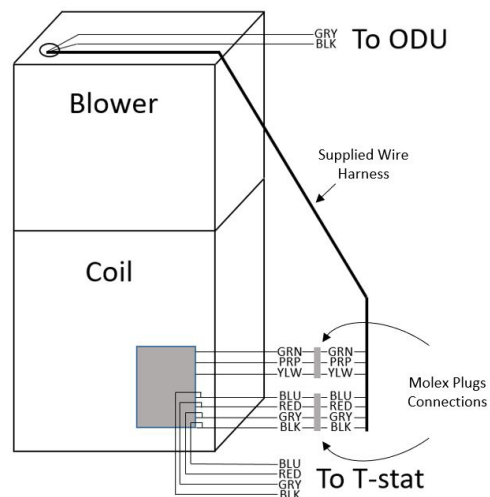

Figure 22
- View Figure 22 for reference of Wire Harness Setup.